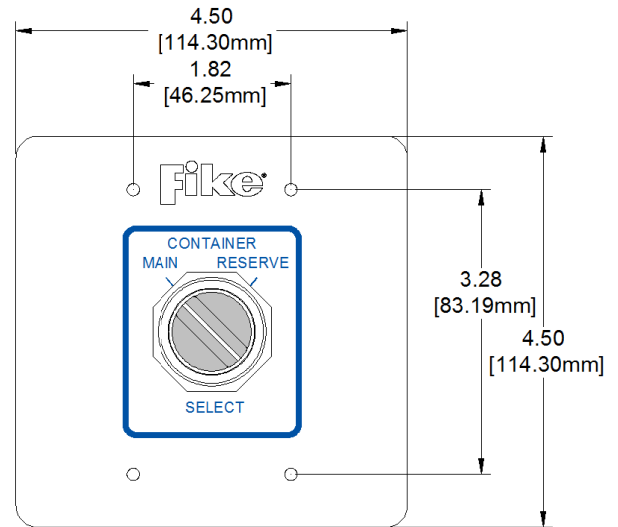

Figure 1 Switch Front View (inches/mm)
1. Remove protective plastic film from stainless steel face plate and apply adhesive label, orientated as shown in Figure 1.